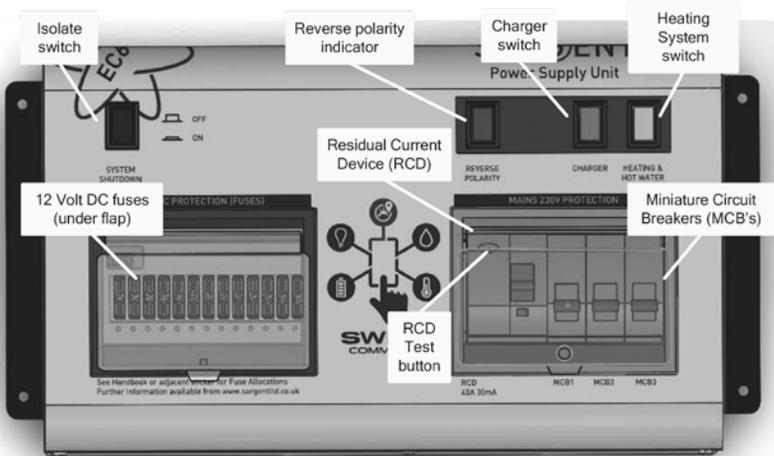

Fig 1
- The EC601 & EC651 Power Supply Unit (PSU) - a combined mains consumer unit and 12V controller located in the bed box or upper locker. (Fig 1)